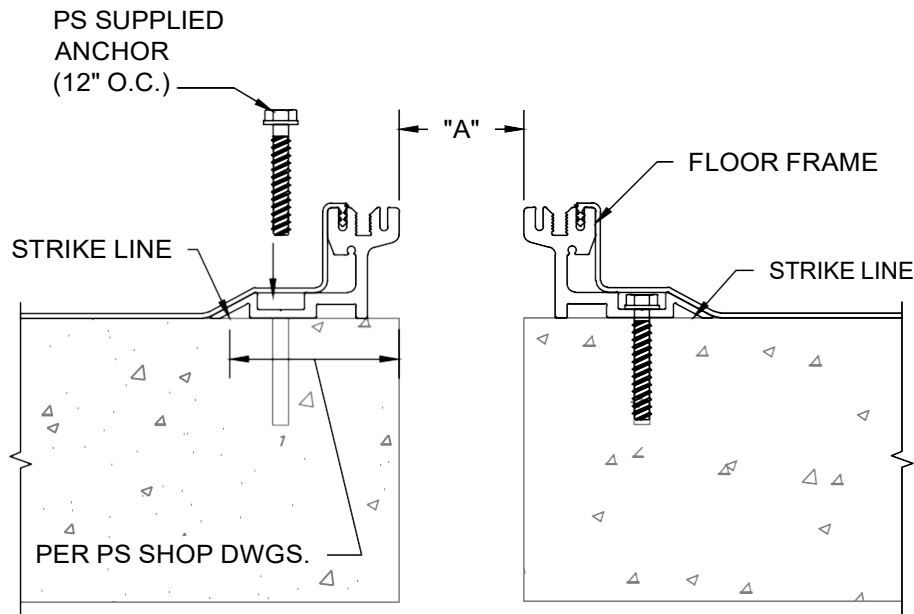

FIGURE 2.1
- 2.1) Locate the back edge of the Floor Frame by measuring back per PS shop drawing from the edge of expansion joint and striking a line the length of the run. (See Figure 2.1)